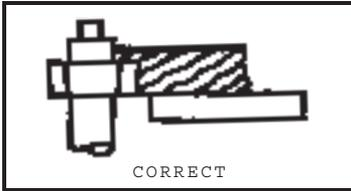
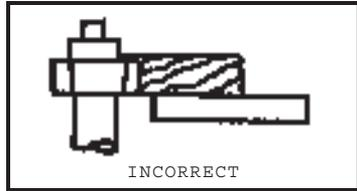

Fig. 1
Fig. 2
7. WHEN SHAPING with piloted bit, the pilot must have sufficient bearing surface ( $\frac{1}{8}$ " minimum) as shown in Fig. 1. Fig. 2 illustrates the INCORRECT method for this operation as the pilot DOES NOT have sufficient bearing surface.